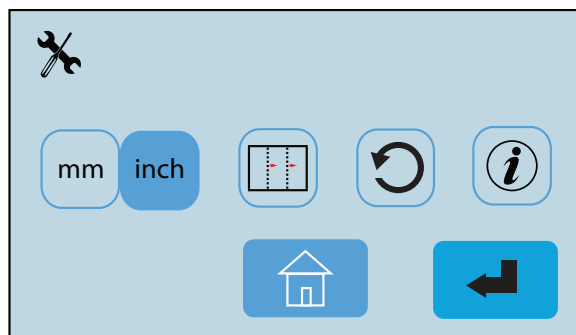
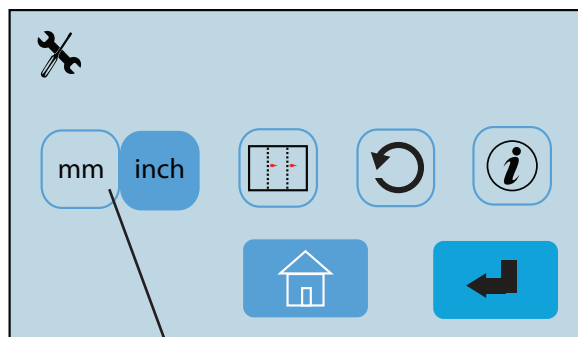

Fig. 23
Fig. 24
1. From the Operator Settings screen (Fig. 23) press the measurement setting icon   (Fig. 24) to change between settings. The icon highlighted in blue is the selected setting. By changing this setting the paper sizes will change from standard to metric or vice versa.